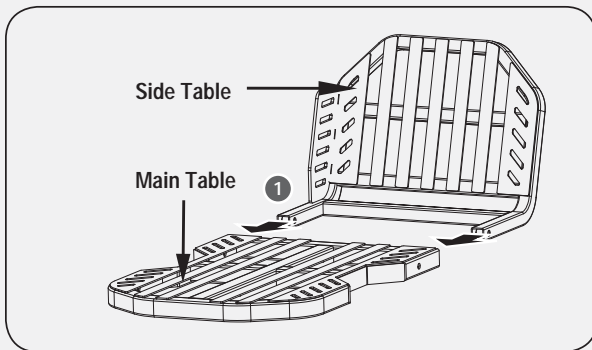

Figure 20a
1. Assemble the side table and the main table together to ensure that the hole positions at the connection are aligned. (See *Figure 20a, illustration 1*.)